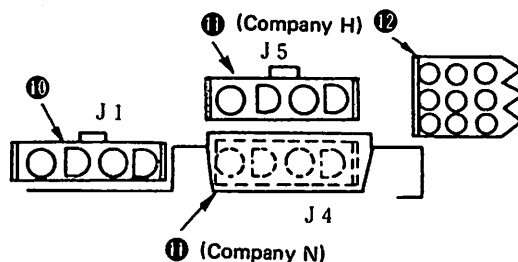

Fig. 5-17
(1) Follow the steps same as (1) through (8) of 5-5 4).
(2) Company H
- ① Remove J5 ( ❶ in Fig. 5-17) and J1 ( ❷ in Fig. 5-17) from the main frame.
- ② Remove J4 (6P) from the power circuit board.
- ③ Remove J21 (3P) from the AC servo control circuit board.
- ④ Loosen two screws (M5 x 10) ❶ , and remove the rectifier from the main frame.
- ⑤ Loosen five screws (M4 x 8) ❷ in the circuit board, remove the circuit board and replace it with a new one.
- ⑥ Then reassemble the components following the procedure for disassembling them in the reverse order. This completes the replacement of the power circuit board asm.
(3) Company N
- ① Remove J4 ( ❶ in Fig. 5-17) from the main frame.
- ② Remove J2 (3P) from the power circuit board.
- ③ Remove J11 (3P) from the AC servo control circuit board.
- ④ Loosen screw (M5 x 10) ❶ or screw (M4 x 16) ❷ , and remove the rectifier from the main frame.
- ⑤ Follow the steps same as steps ❸ and ❹ of (2).